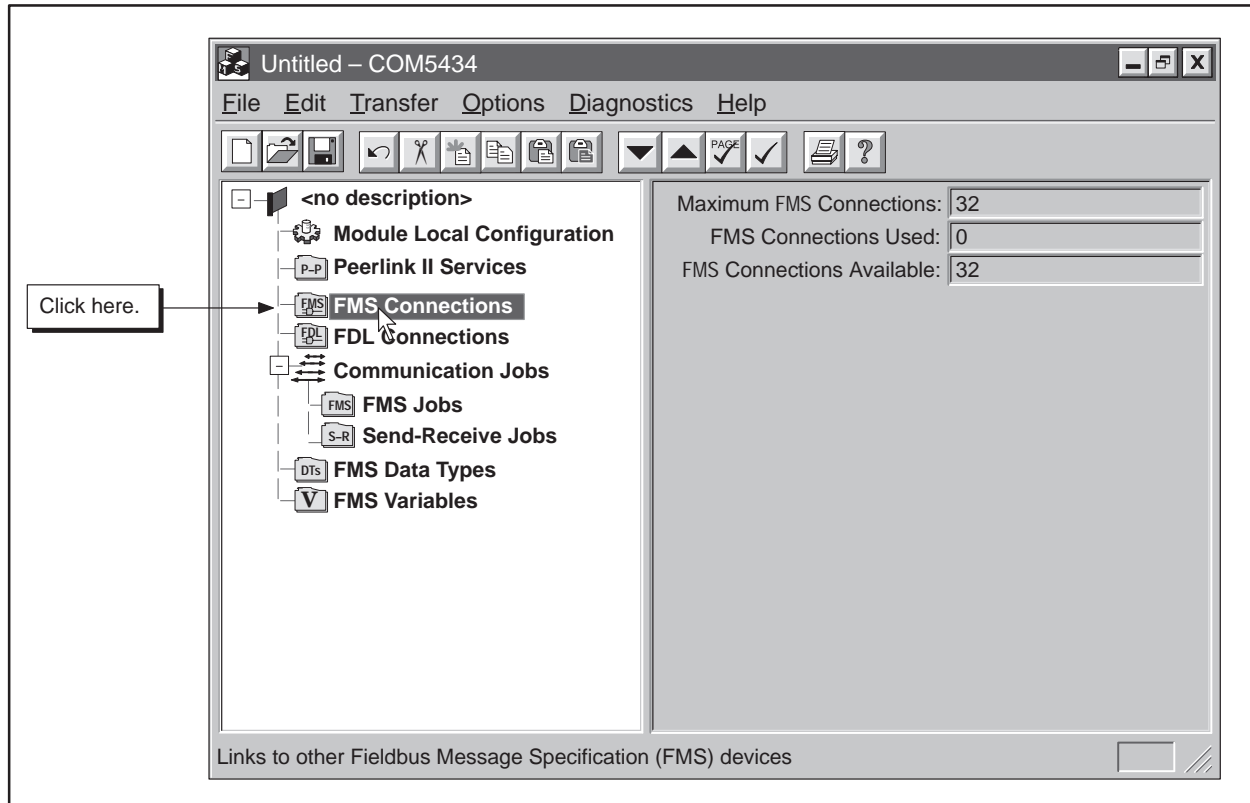

Figure 5-12 FMS Connections Available
**FMS Connections** The FMS CP module supports up to 32 FMS connections, as shown in Figure 5-12.